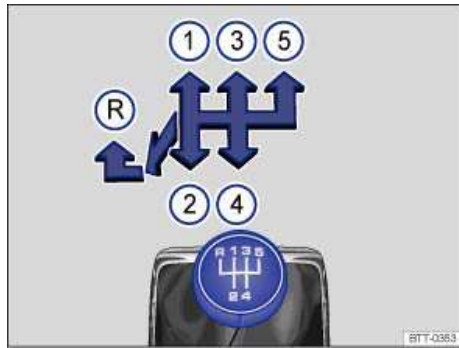
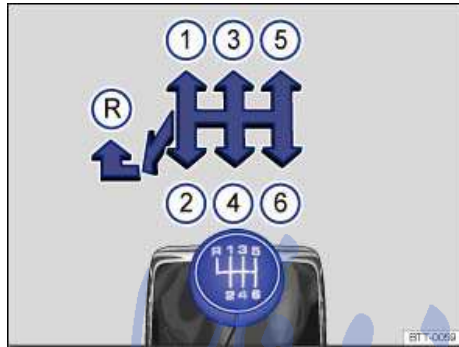

Fig. 117 Gearshift pattern of a 5-speed manual transmission.
Fig. 118 Gearshift pattern of a 6-speed manual transmission.
The positions of the individual gears are shown on the gearshift lever ⇒ fig. 117 or ⇒ fig. 118.
- Move the shift lever to the left and then push forward into the reverse gear position ⇒ fig. 117 (R) or ⇒ fig. 118 (R).